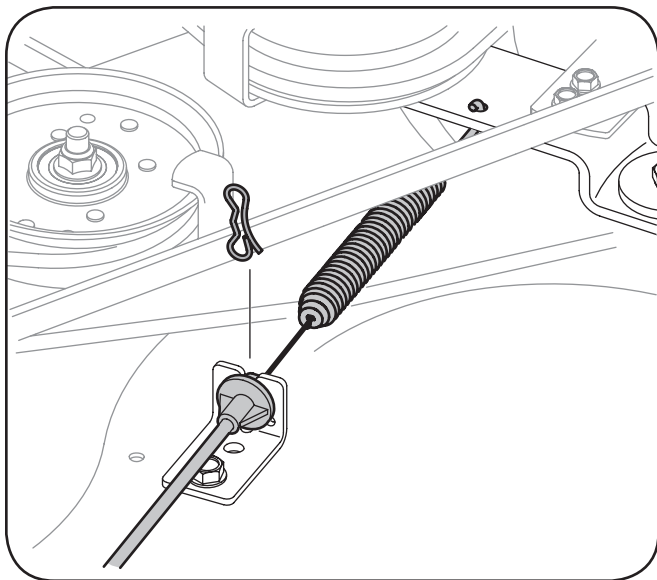

Figure 7-4
- Carefully remove the PTO cable from the rear of the cutting deck by removing the bow-tie clip which secures it. Remove the spring from the deck idler bracket. See Figure 7-4.